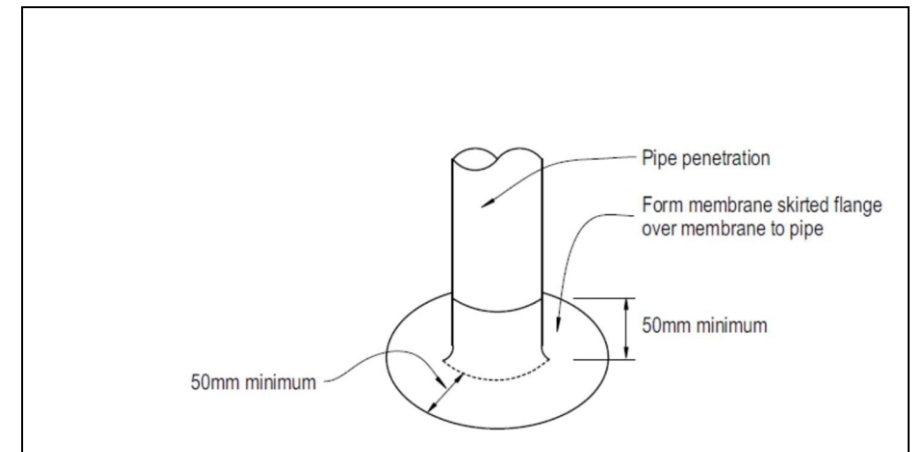

Figure 28: Pipe penetrations
- ◆ Figure 28: Pipe penetrations